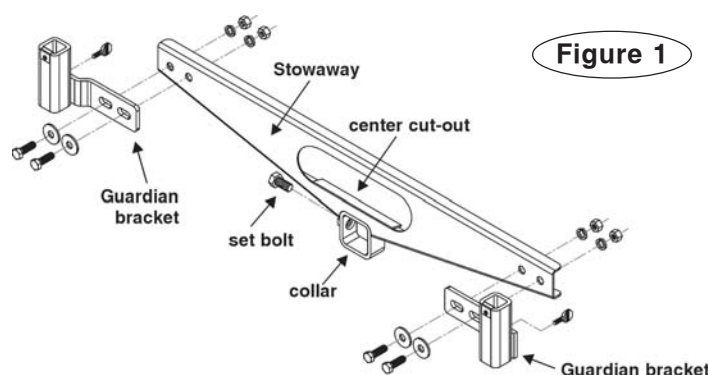

Figure 1
(Refer to Figure 1)
3. Attach the remaining hardware as shown in Figure 1; finger-tighten only.